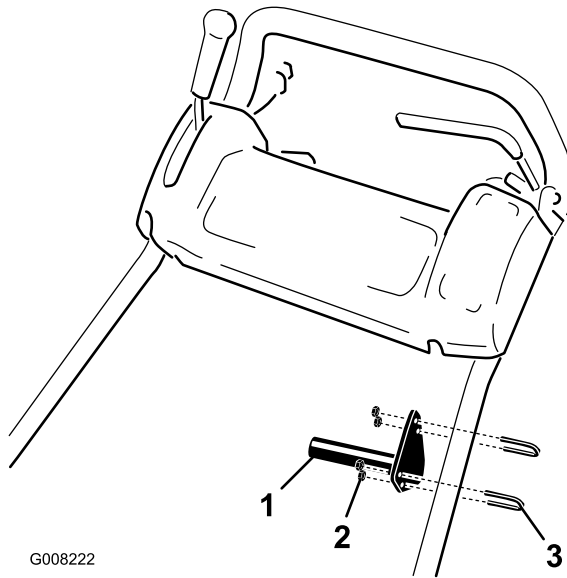

Figure 4
1. Loosely mount a lift handle to each side of the handle with 2 clamps and 4 locknuts (Figure 4).
2. Position the handles about 6 inches below the control panel (Figure 4). Tighten the mounting nuts.